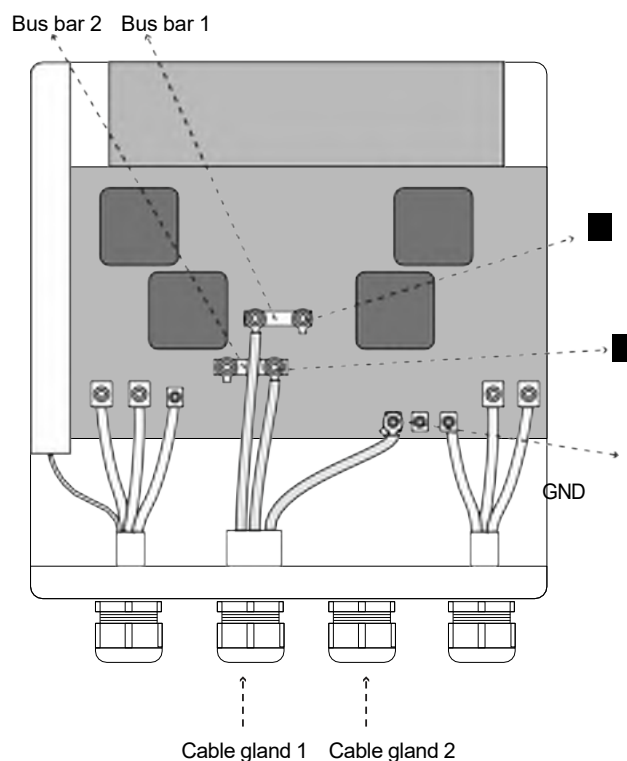

Figure 6
Instructions to wire the unit with a single branch circuit of 80A (refer Figure 6)
- Unscrew the cable gland 1 at the bottom of the unit (see Figure 6) and pass the input wire through the cap of the gland into the unit box.
- Do not remove bus bars 1 and 2 (see Figure 6).
unit board as marked in the Figure 6.